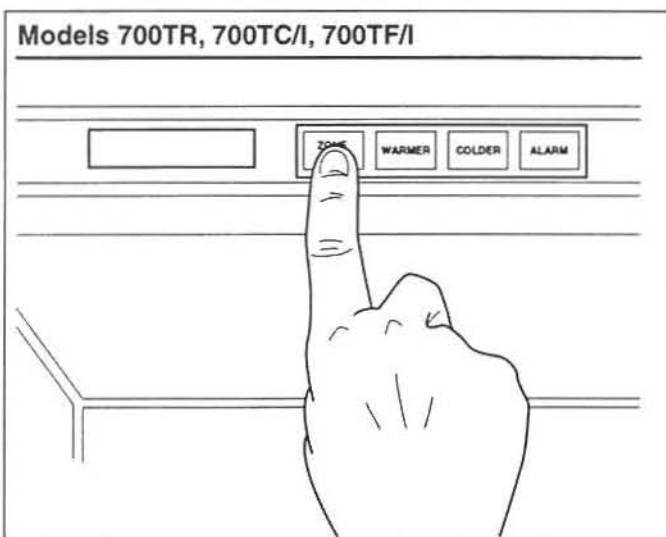

Figure 2-8. Control Panel
1. Press ZONE key to show the temperature set point for each zone (See Figure 2-8). Press the zone key until the desired zone is flashing on the LCD.
2. Press the WARMER or COLDER key to achieve the desired temperature (Figure 2-8). When setting is complete, wait for five seconds and the control will return to normal operation.